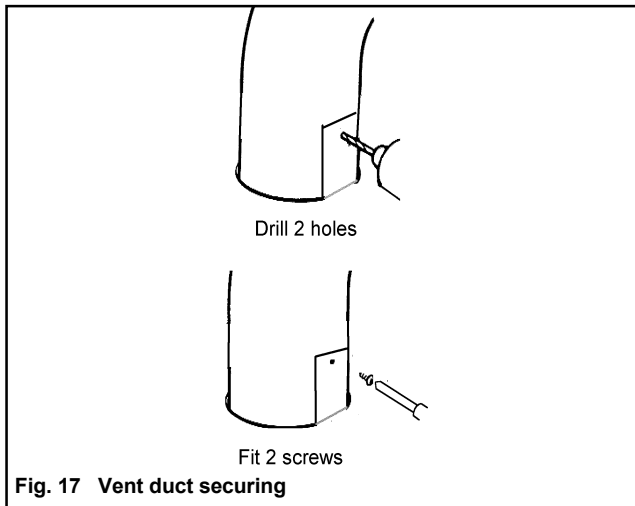

Fig. 17 Vent duct securing
extension at the appliance ducts by drilling and securing with two #6 tapping screws provided (Lift the decorative vent collar clear while working). See figure 17. **Make sure that the drill does not penetrate the inner vent duct.**
12.3 The burner manifold pressure is controlled by a built-in non-adjustable regulator. The correct pressure range is shown in the table in section 2.3 of this manual. The manifold pressure should be checked at the pressure test point which is located on the thermostat unit (see figure 17). The pressure check should be made with the appliance burning, the gas control set at "On" and the thermostat control set at "Full". (Temporarily refit the control knobs for checking.)